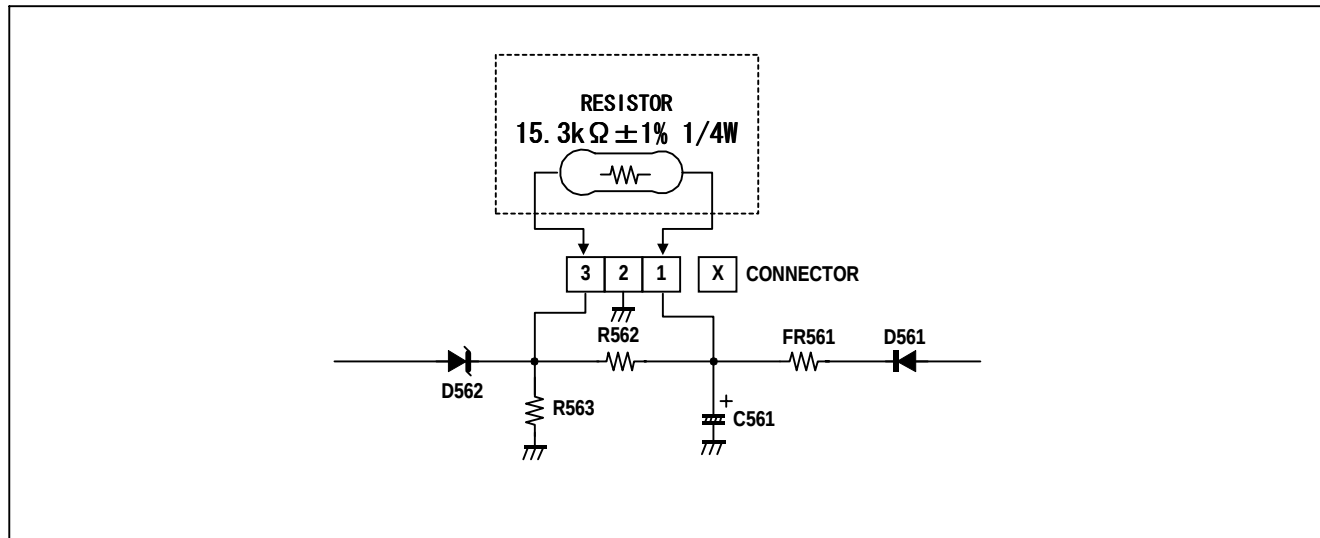

Fig. 2
- (1) Turn the POWER SW ON.
- (2) As shown in Fig.2, set the resistor (between ☒ connector 1 & 3).
- (3) Make sure that the screen picture disappears.
- (4) Temporarily unplug the power cord.
- (5) Remove the resistor (between ☒ connector 1 & 3).
- (6) Again plug the power cord, make sure that the normal picture is displayed on the screen.